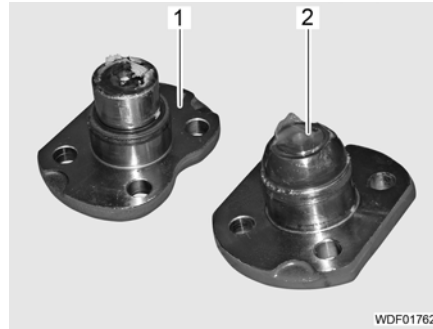

Fig. 378 Locking bolt
- Insert the cylindrical locking bolt (Fig. 378,1) on the top side into the planetary gear carrier.
- Insert the spherical locking bolt (Fig. 378,2) on the bottom side into the planetary gear carrier.